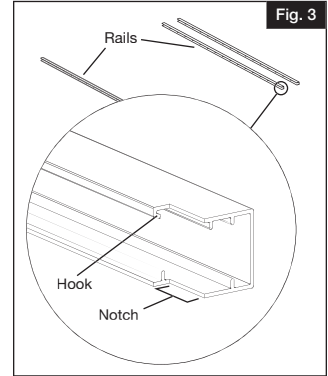

Fig. 3
- If you are left with a space less than a full panel, the panel can be cut down to fit the space by using a hacksaw. "Notch" the cut ends of the horizontal rails so they will sit inside of post (Fig. 3).
Place top and bottom rails on a smooth, flat and clean surface. Position the rails so that the "J" hook inside the rails is on top, with the "J" facing down (Fig. 3).
- Make sure to properly position the "J" hooks as shown (Fig. 3) otherwise the pickets will not lock in place, and panel will not be secure.
Dig the first two post holes. Hole size should be dug based on the following determination: Depth is determined by your local frost line measurements plus 6" for gravel/filler (Fig. 3). Width is 6"